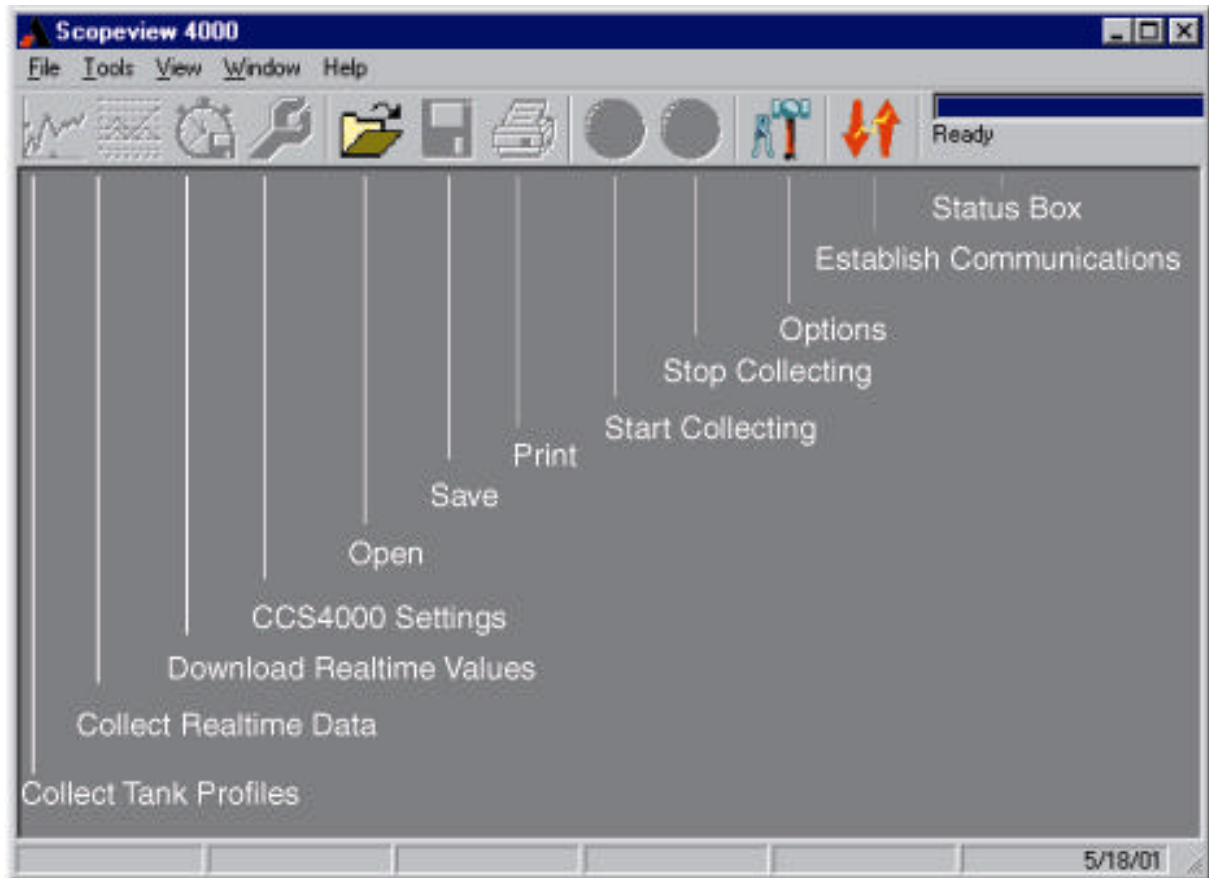

Figure 2 Main Screen with Toolbar
(refer to Figures 2 and 4)
(refer to Figures 2,4 and 6)
(refer to Figures 2,5, and 6)
(refer to Figures 2 and 7)
e) Downloading Internal Data Log (Refer to Figure 2 and 5)
IV File Configuration Notes (Refer to Figures 2,6 and 7)